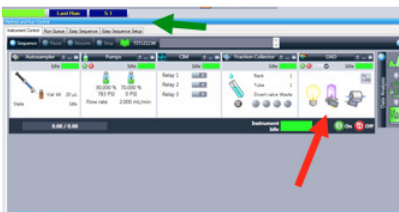

Figure 2.5: "Instrument Control" tab indicated by top, green arrow. Bottom right, red arrow indicates the DAD window.
3. Use the Instrument Control Tab. Confirm that all components are green and indicate “ready.” (□ Figure 2.5)